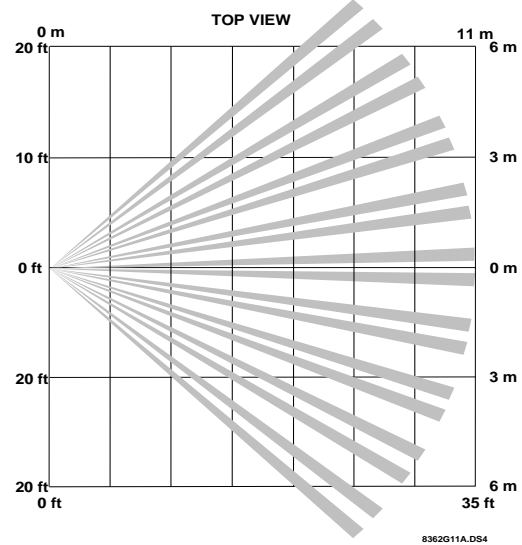

Figure 1. This graph shows the top view of the lens coverage area, for the indoor motion sensor's lens.
- The pet must not be allowed to climb on objects such as furniture, boxes, etc. within the field of coverage. See Figures 1 and 2 to determine the sensor's field of coverage.